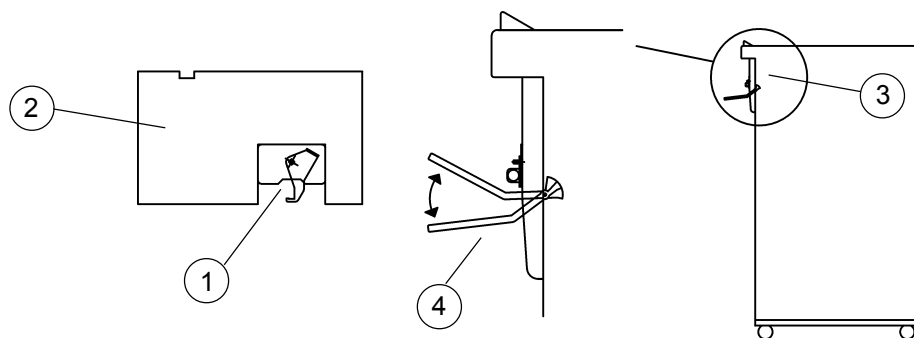

Figure 6
1. Take the exit arm catcher (1), remove the adhesive from the back of the catcher. Take the mounting template (2) and hold it to the output on the printer finisher (3). Install the catcher on the printer. Lift up the exit paper arm and set onto the catcher (4). Figure 6